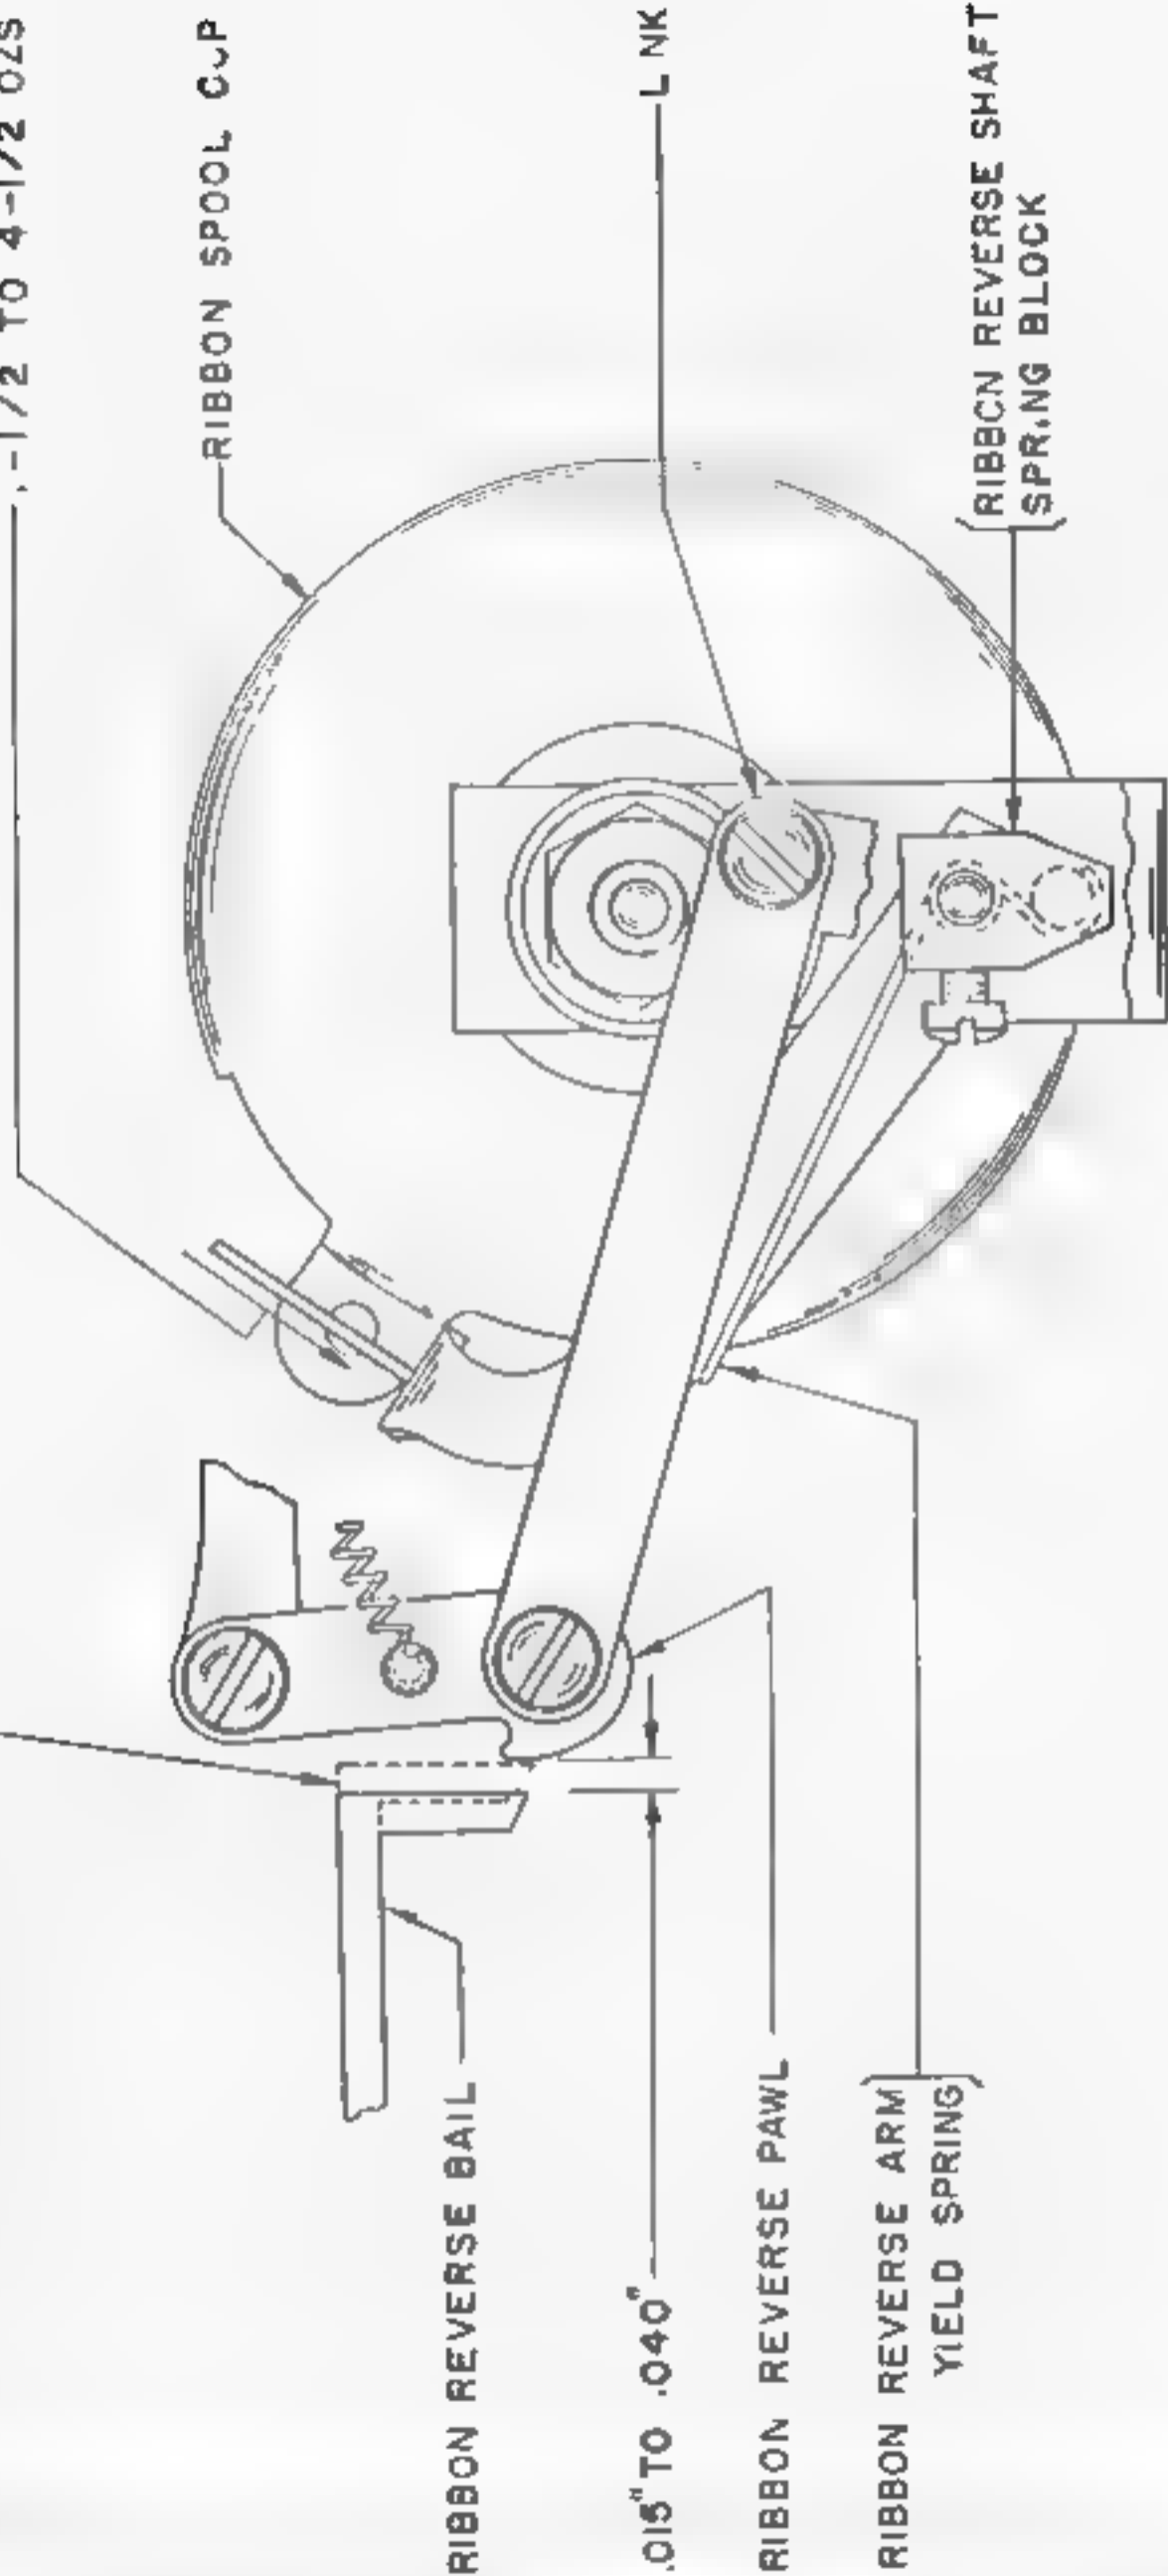

FIGURE 2
c. RIBBON REVERSE PAWL LINKS ADJUSTMENT (Figure 2)
d. RIBBON REVERSE ARM YIELD SPRING TENSION ADJUSTMENT (Figure 2)
178B, Page 3 and Figure 2